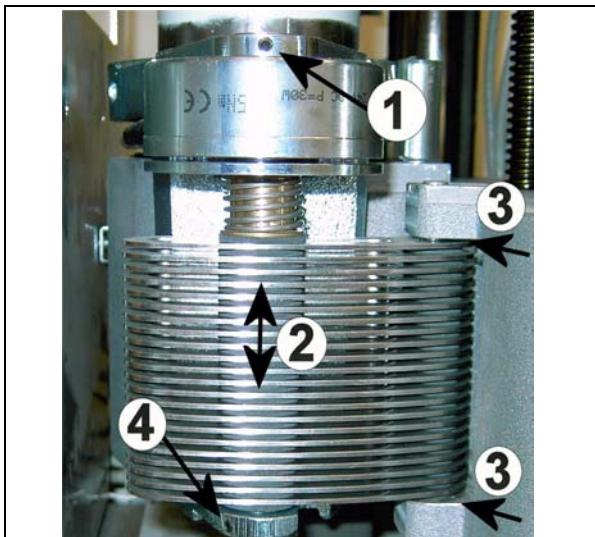

Fig. 6
For the adjustment the entire swivel brake can still be shifted slightly vertically in the holder (see arrow 2 / Fig. 6).
- Screw the grub screw 1 / Fig. 6 into the new upper mounting bracket, but do not tighten it yet.
- Adjust the swivel brake in vertical direction so that the disks lie in the approximate center in the holder. The play between disk and holder at the points 3 / Fig. 6 should be approximately the same.
- Tighten the grub screw 4 / Fig. 6 slightly, so that the swivel brake does not slip down on its own.
The play at the positions indicated with arrows 3 / Fig. 6 must be at least 0.5 mm between disk and holder.
- Finally, tighten the two grub screws 1 / Fig. 6 and 4 / Fig. 6.